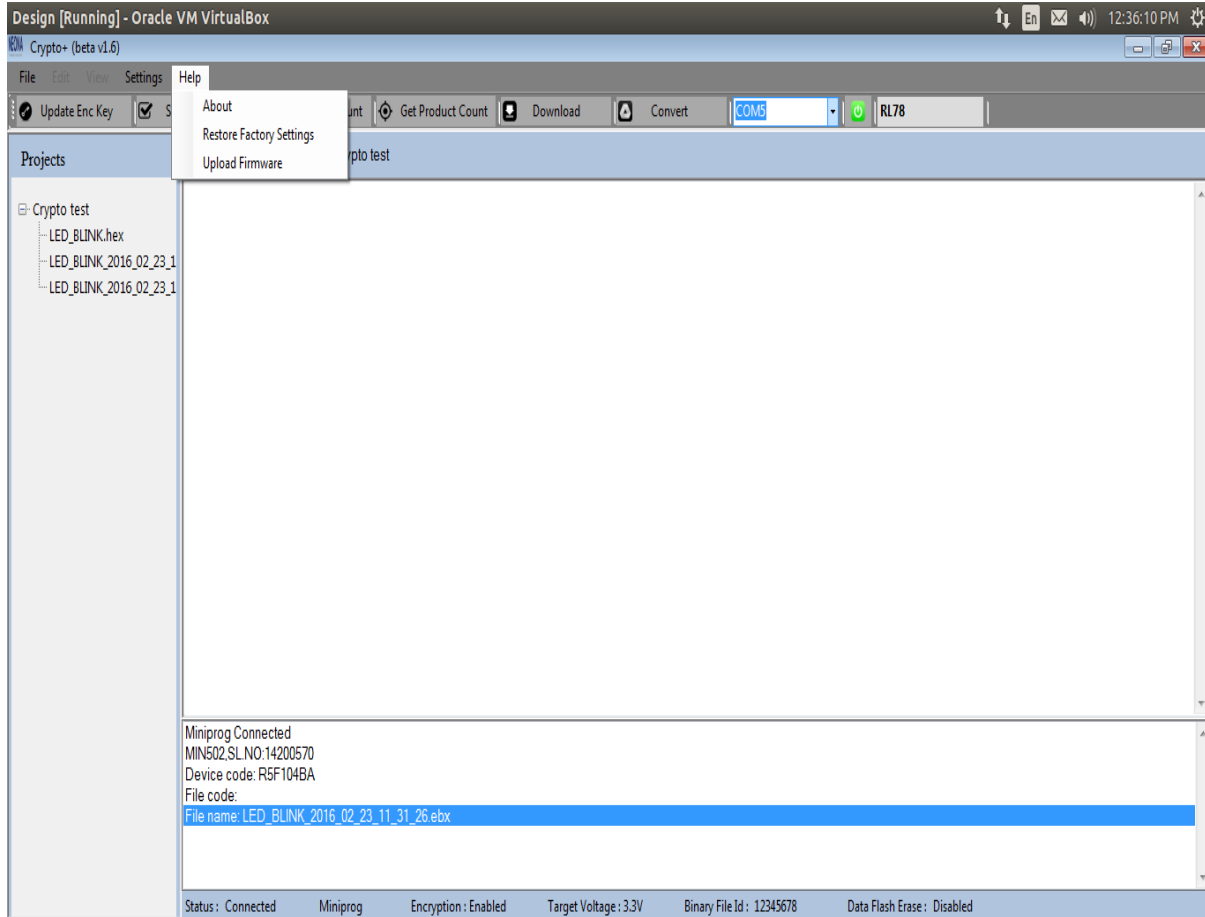

Figure 2.41
STEP 2: Click **Restore Factory Settings** option in Help shown in figure 2.41.
STEP 1: Click **About** option in Help shown in figure 2.41.